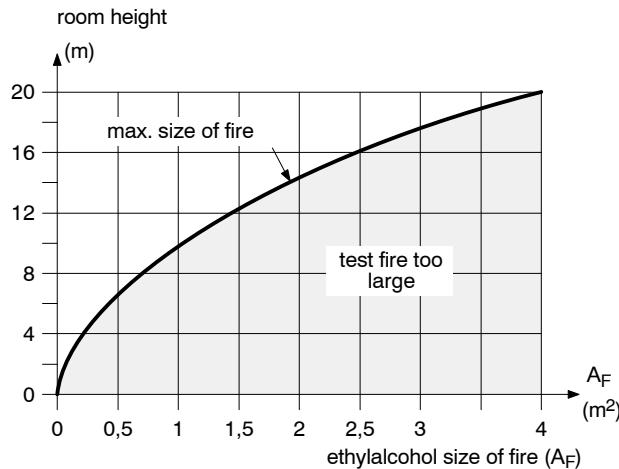
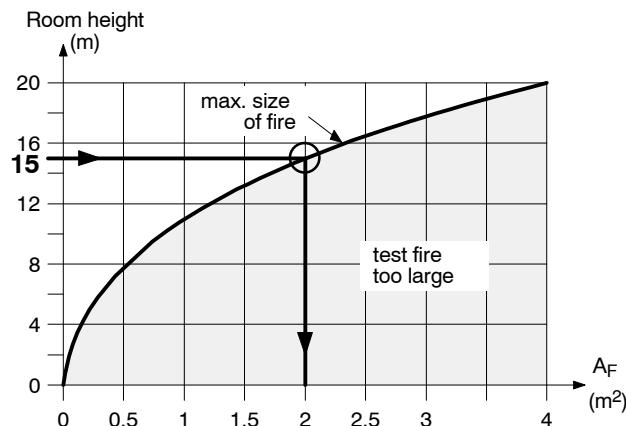

Fig. 11 Graph to show maximum permissible size of fire according to room height
Fig. 16
1. Calculate max. permissible size of test fire on the basis of room height (see Fig. 11 and Fig. 16).